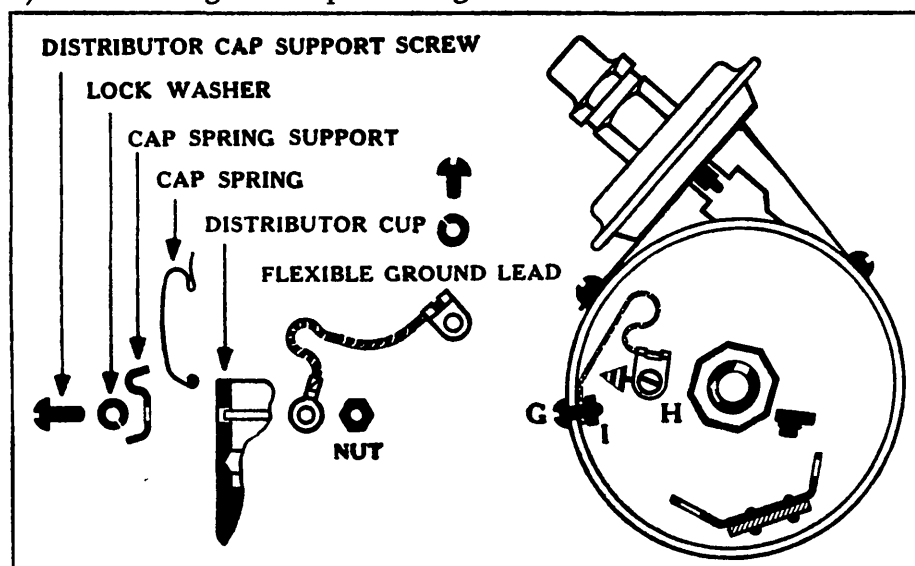

Fig. 6
6. Remove distributor cap support screw ("G", Fig. 6) which holds one end of the flexible ground lead to the inside of the distributor cup, and screw "H", which holds the other end of the lead to the breaker plate.
8. Attach flexible ground lead. Refer to Fig. 6 for order in which parts are assembled, and the end of the flexible lead which should be attached to the breaker plate.